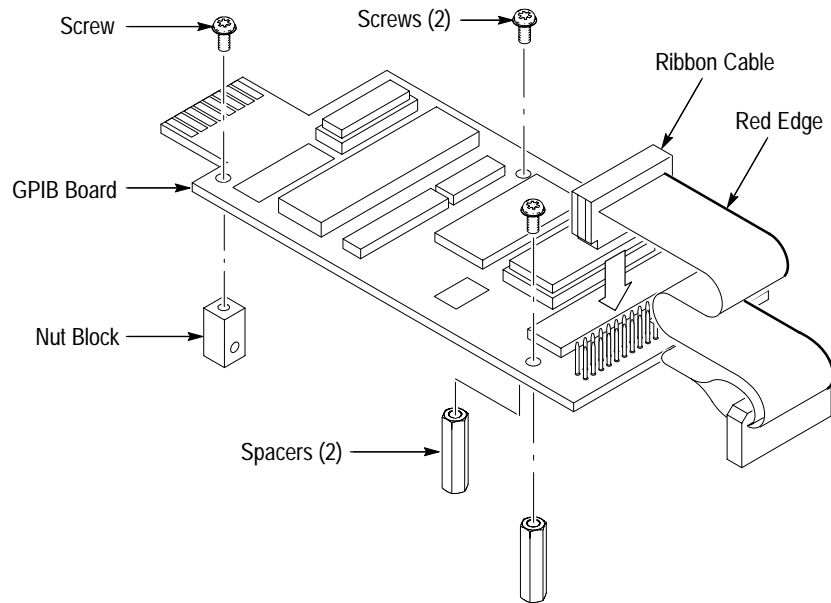

Figure 6: Assembling the GPIB Test Fixture
1. Refer to Figure 6. Install the spacers (129-0425-00) onto the GPIB board with two screws (210-0408-00).